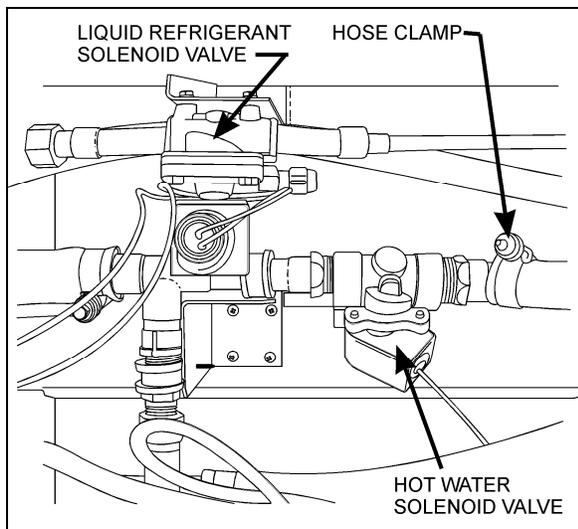

FIGURE 39: CEILING OF THE SPARE WHEEL COMPARTMENT 22181
2. Locate the normally open water solenoid valve on the ceiling of the spare wheel compartment (Fig. 39), disconnect its wiring connector, then connect a 24-volt external power source, using jumper cables, to close valve.
A two-way normally open, internal pilot-operated solenoid valve designed for smooth closing is used to control the coolant flow through the driver's heating unit. It is mounted on the coolant inlet line of the driver's heating unit, and is accessible through the spare wheel compartment (see fig. 39). The valve cannot be manually bypassed.